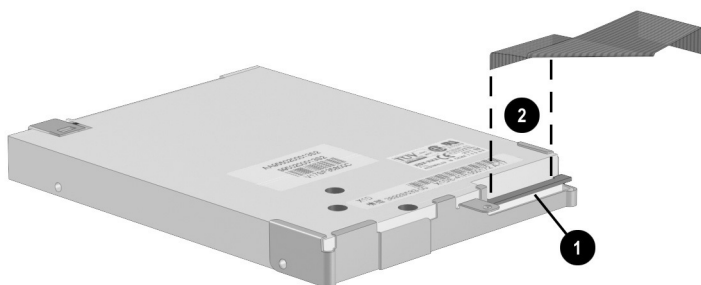

Figure 5-38. Removing the Diskette Drive Cable
6. Release the ZIF connector ❶ to which the diskette drive cable is connected and disconnect the cable from the diskette drive ❷ (Figure 5-38).